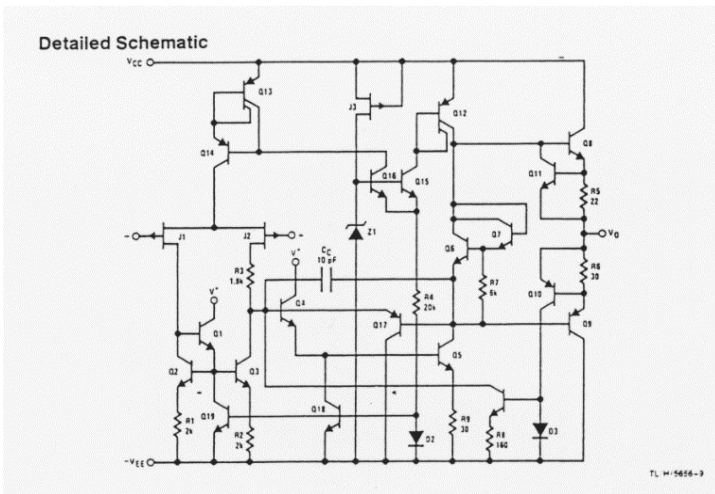

Figure 1: Integrated circuit schematic for the National Semiconductor LF412 op amp.
The operational amplifier (op amp) was introduced in class for applications involving linear amplification. The op amp is an integrated circuit (IC) that contains over two dozen transistors and a dozen resistors as shown in Figure 1. However, by using the equivalent circuit model of the op amp, no background is needed in transistor amplifier analysis to design and build circuits using this device. In particular, the functionality of the op amp can be modeled using a simple combination of resistors coupled with a dependent voltage source as shown in Figure 2. Moreover, to analyze circuits that contain *ideal op amps*, the equivalent circuit model can be neglected and the golden rules that describe op amp behavior with negative feedback can be applied: